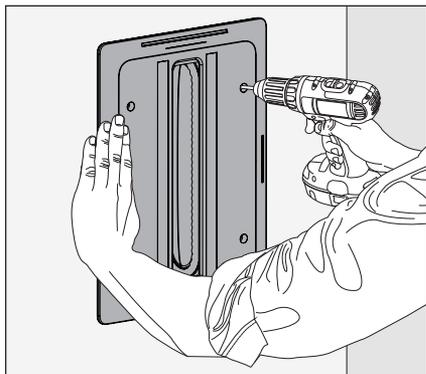

Fig. 3e
- 3) Supporting the assembly with one hand, tighten each screw (Fig. 3e). Stop tightening when you sense resistance.